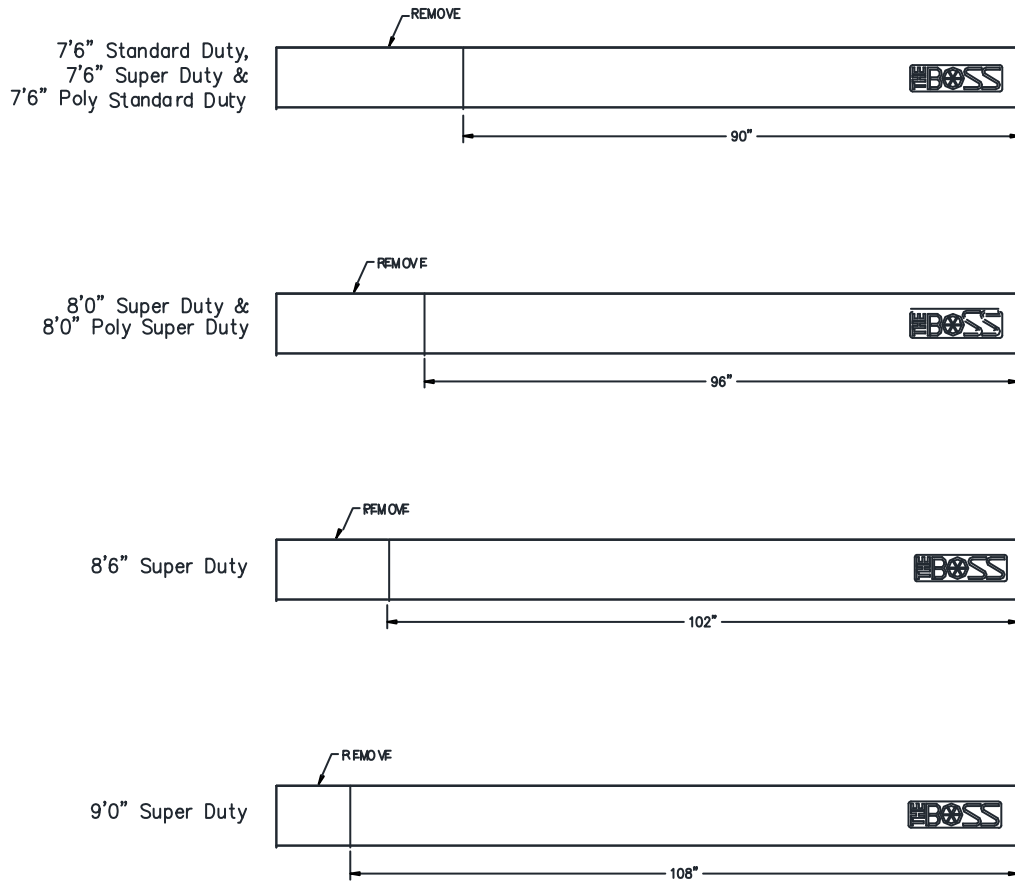

Figure 8. Belting Dimensions for all Straight Blades.
- 1) Cut MSC04058 Belting (1) to match the length of your Straight Blade using the dimensions specified in Figure 8.